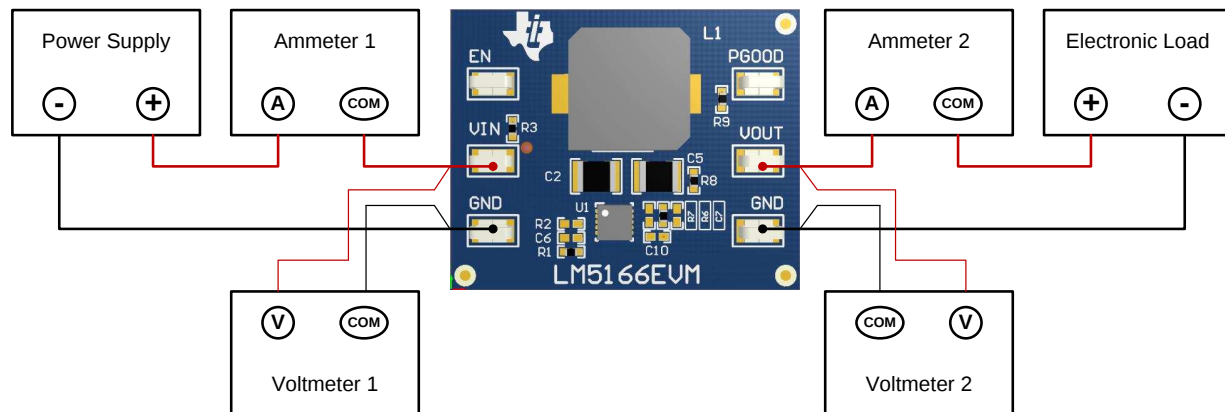

Figure 3. EVM Test Setup
Referencing the EVM connections described in Table 2, Figure 3 shows the recommended test setup to evaluate the LM5166EVM. Working at an ESD workstation, make sure that any wrist straps, boot straps or mats are connected referencing the user to earth ground before power is applied to the EVM.
- Prior to connecting the DC input source, it is advisable to limit the source current to 1 A maximum. Ensure the input source is initially set to 0 V and connected to the VIN and GND connection points as shown in Figure 3. An additional high-ESR, low leakage, input bulk capacitor (e.g. 47-μF, 100-V Electrolytic capacitor) is recommended if long input lines are used.